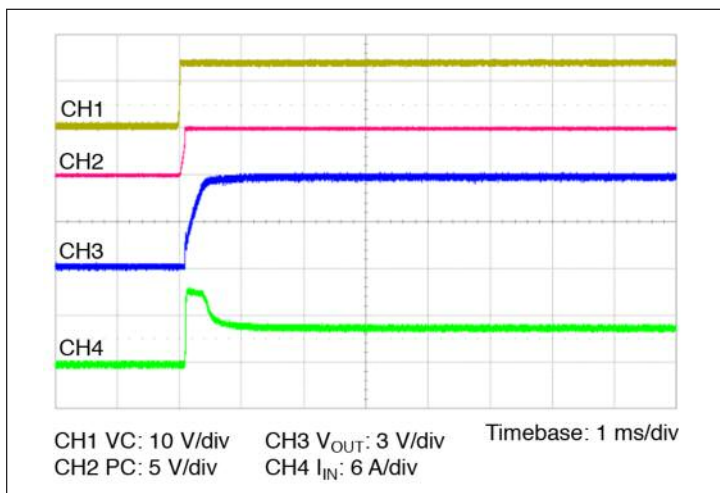

Figure 11 — Start up from application of VC;
- **Stand-alone operation (VC applied after V_{IN}):** In this case the VTM output will begin to rise upon the application of the VC voltage (See Figure 11). The Adaptive Soft Start Circuit (See Section 11) may vary the output rate of rise in order to limit the inrush current to its maximum level. When starting into high capacitance, or a short, the output current will be limited for a maximum of 120 µsec. After this period, the Adaptive Soft Start Circuit will time out and the VTM module may shut down. No restart will be attempted until VC is re-applied or PC is toggled. The maximum output capacitance is limited to 4000 µF in this mode of operation to ensure a successful start.